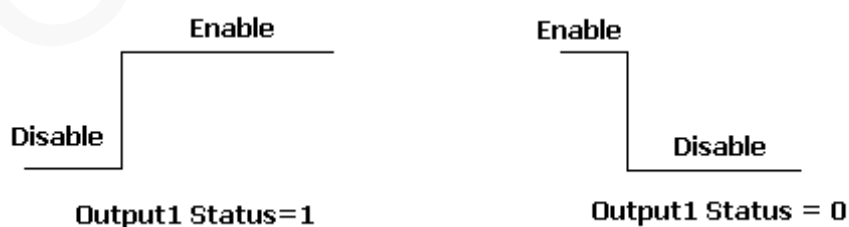
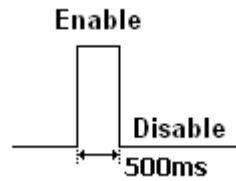
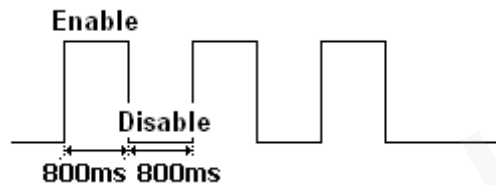

Figure 2: Wave Shape 1
Figure 3: Wave Shape 2
Figure 4: Wave Shape 3
- ✧ **<Output1–2 Status>**: Valid only for the wave shape 1 as shown in **Figure 2**, it is used to set the final status of the output port.
- ✧ **<Duration>**: Please refer to **Figure 2**, **Figure 3** and **Figure 4**. Unit: 100ms.
- ✧ **<Toggle Times>**: Please refer to **Figure 2**, **Figure 3** and **Figure 4**.